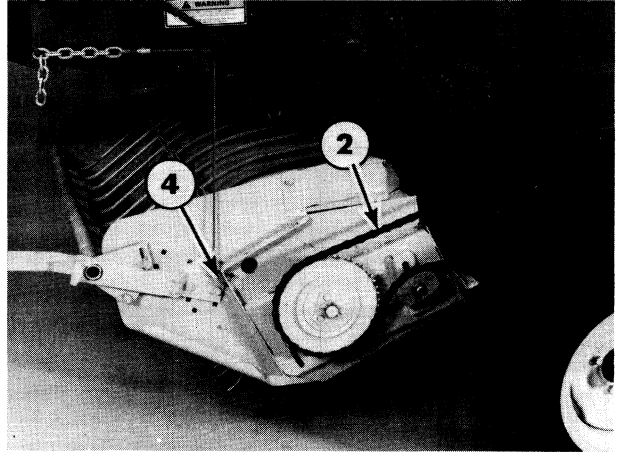
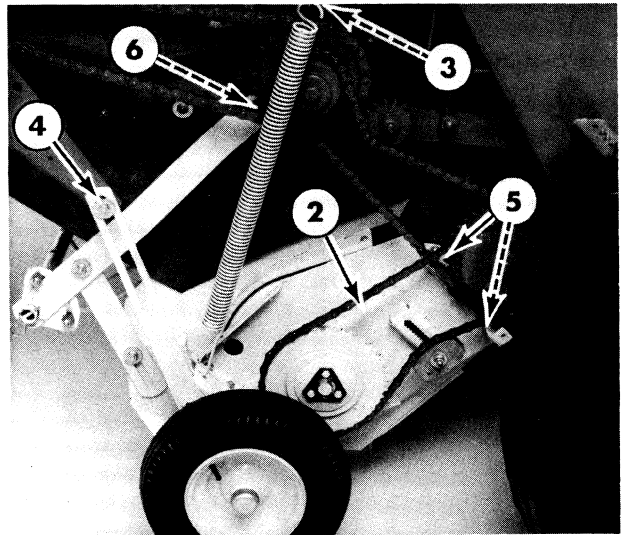
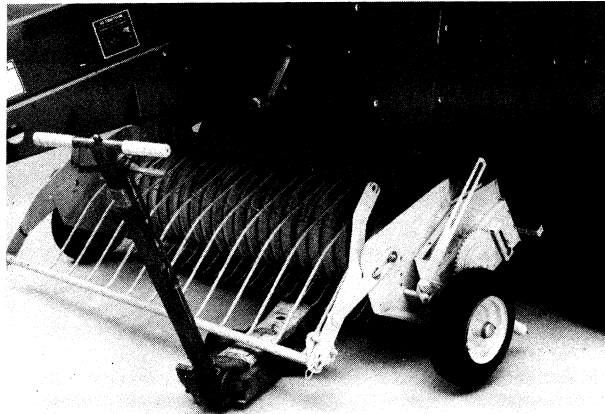

Figure 4-9
Figure 4-10
Figure 4-13
1. Remove the shield and drive chain, 2, from the left-hand side of the baler. See Figures 4-9 and 4-10.
2. Loosen and remove the flotation springs from each side of the baler at 3, Figures 4-10 and 4-11.
3. Lower the pickup to field operating position. Disconnect the lift cable at 4, Figure 4-9, on the Model 634. On larger models, disconnect the lift link at 4, and the wind guard link at 6, Figure 4-10. With a floor jack, support the rear of the pickup. Loosen and remove the cap screws at 5, Figures 4-9 through 4-12. The pickup can now be removed from the baler. See Figure 4-13.
Reinstall the pickup lift linkage at 4, Figure 4-9 or 4-10. Raise the pickup and install the flotation springs to each side. Adjust the flotation springs, 3, Figures 4-10 and 4-11, evenly on each side, until there is 50 lbs. (23 kg) weight on the gauge wheels when they are resting on the ground.